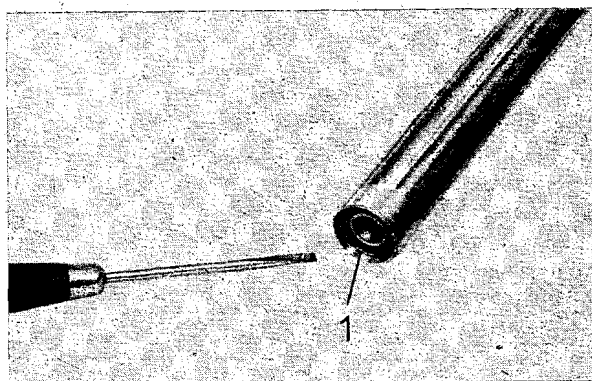
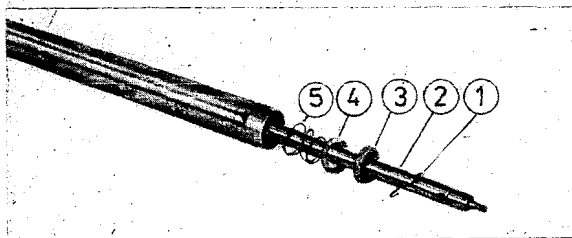

Fig. 108. Pressing the annular ring out of the guide tube
Fig. 109. Removing the throttle, valve plate and spring
- Remove the sealing washer (3), the compression spring (4) 19 mm in diameter, and the cup for the final stop (5) from the supporting tube (6);
- Push the supporting tube (6) into the guide tube (A);
- Remove the annular ring 32 x 1.6 (Fig. 108) from the guide tube. The throttle arranged behind the annular ring (3) has a milled-out recess in its external diameter in order that the annular ring can easily be pressed out by means of a small screwdriver. Remove the throttle (3), the valve plate (4) and the compression spring for the valve plate (5) (see Fig. 109);
- For the sake of clearness Fig. 109 has been included showing the assembly without the supporting tube pushed in.
- Check the guide tube (A), Fig. 109, for chromium defects, scores and distortions. In case of doubt, check for true running. Permissible eccentricity 0.05 mm.
Place the compression spring (5), having a diameter of 27 mm, against the lock ring and fit the valve plate (4) with the ground side pointing to the following throttle. Then smoothen the throttle (3) on one side, opposite to the radius and the milled-out recess, by means of fine emery cloth on a surface plate, and mount it with the smooth side pointing to the valve plate (Fig. 109).
Fit the annular ring (1). For reasons of safety, only use new rings, and pay particular attention to the proper seat of the ring in the groove (see Fig. 109).